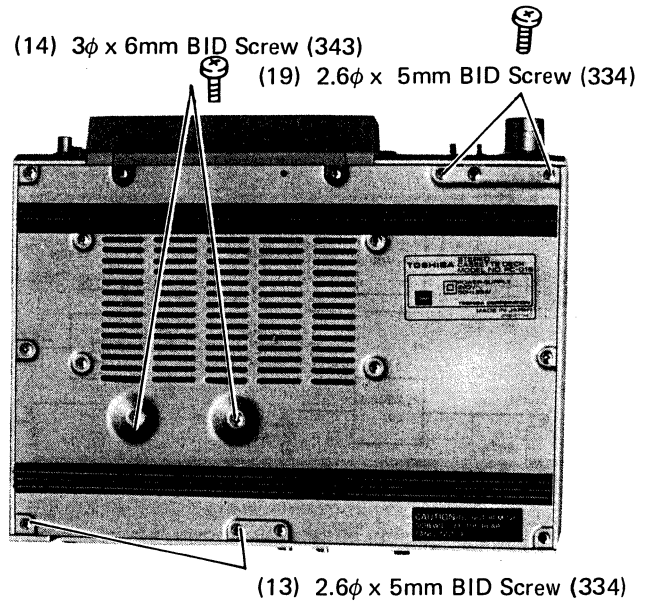
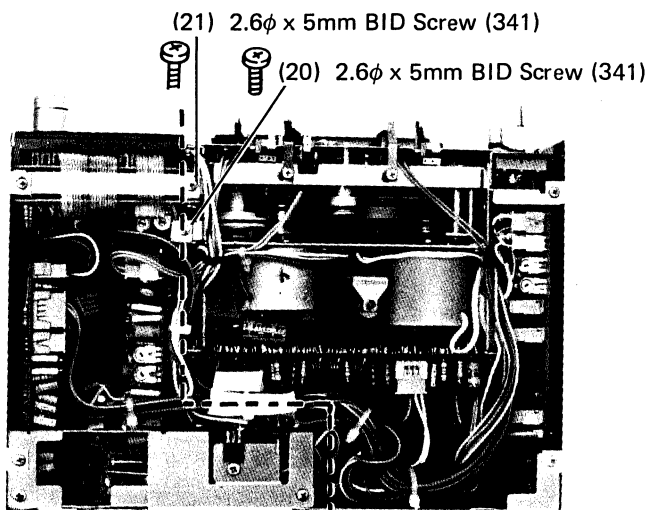

Figure 24.
Figure 26.
1. Remove one screw (12) and four screws (13) and (14) holding the bracket for the transformer as shown in Figure 24 and 25 and the bracket can be removed.
1. After removal of the power transformer mounting bracket, remove two screws (19) and one screw (20) as shown in Figure 24 and 26. The type mechanism assembly and the main chassis assembly can be separated as illustrated with a dotted line. (See Figure 26.) This is capable of checking and replacing parts on the Main P.C. Board and the logic P.C. Board.
1. Remove two screws (21) and (22) holding the LED P.C. Board and the meter drive P.C. Board as shown in Figure 26 and 27, and these P.C. Boards with the tape counter can be removed. Take care of the counter belt looped on the tape counter.